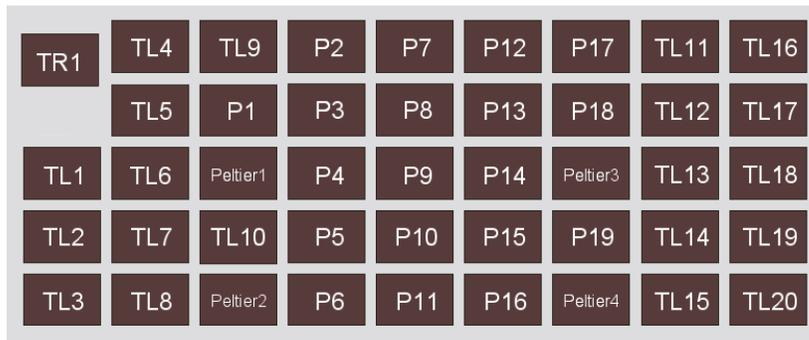

Figure 16 Deck positions on the Biomek™ i7 Automated Workstation.
- Figure 16—Deck positions on the Biomek™ i7.